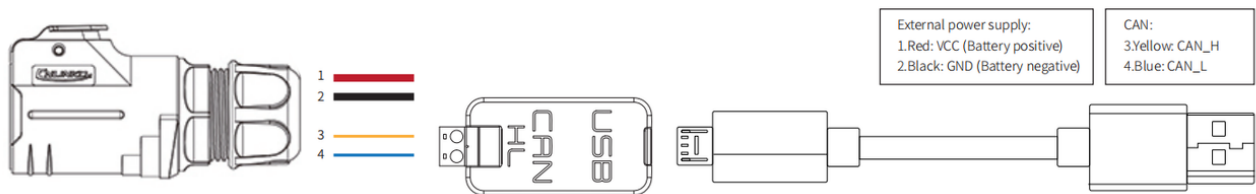

Figure 3.4 The CAN wiring diagram
- Connect CAN_TO_USB to the laptop's USB port. The connection diagram is shown in Figure 3.4.